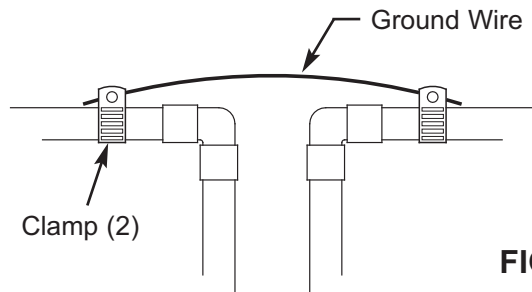

FIG. 12
- a. Install a #4 copper wire across the removed section of main water pipe, securely clamping it at both ends (See Figure 12) - parts not included.